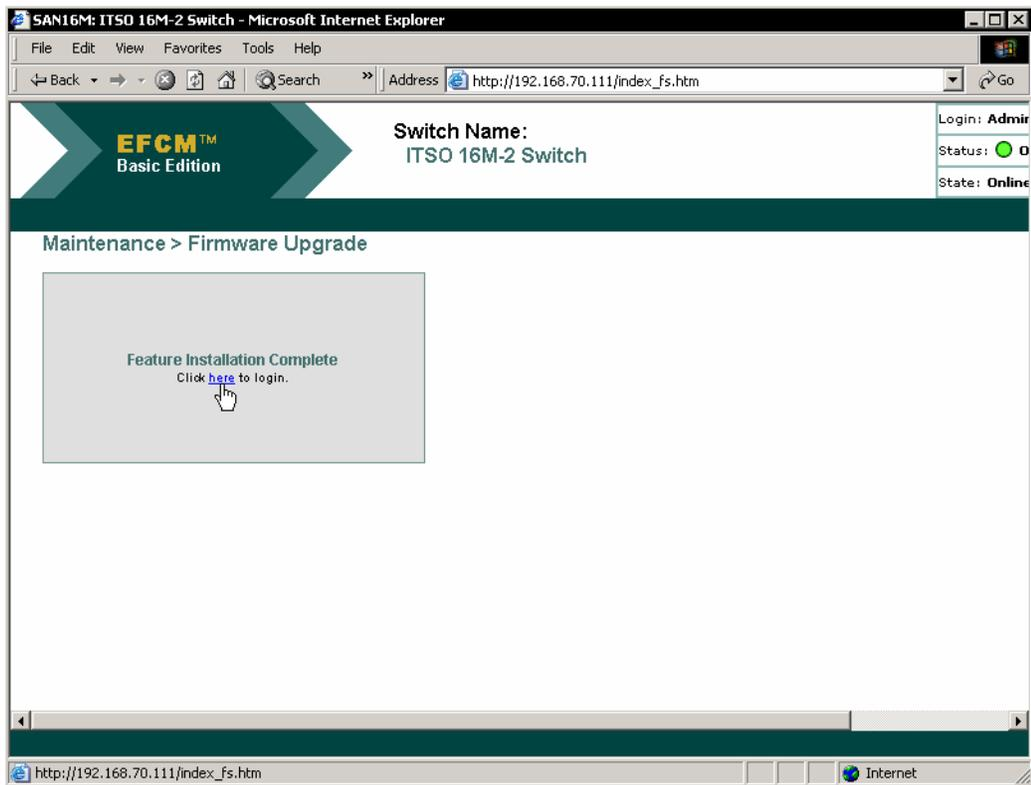

Figure 53 EFCM Basic - PFE install reset
6. Click the **here** link, as shown in Figure 53, to log in and start a new EFCM Basic session.